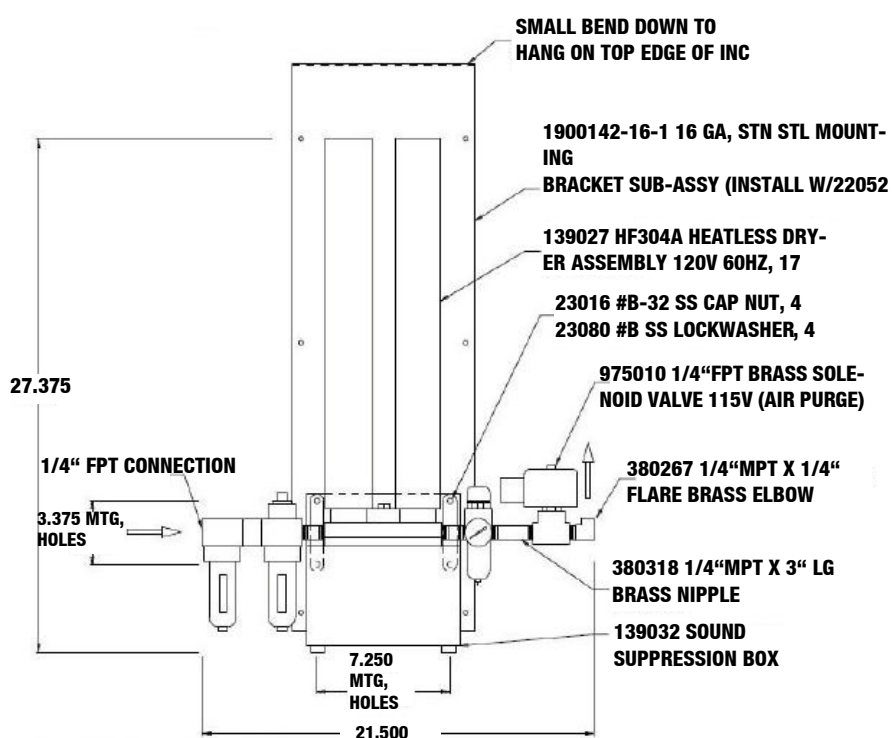

Figure 5-5 Heatless Dryer Assembly
2. Install the required oil removal filter between the customer air supply and the connection to the heatless drier assembly. Refer to Figure 5-5.